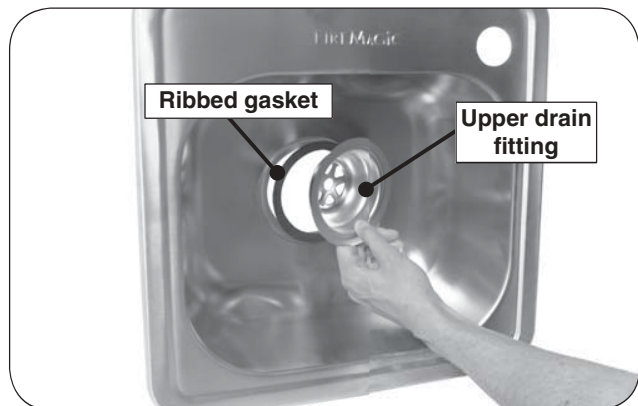

Fig. 2-3 Insert upper drain fitting in sink
3. Turn the sink on its side, and insert the upper drain fitting into the hole on the bottom of the sink. Ensure the ribbed gasket is between the metal of the sink and the fitting. See Fig. 2-3.